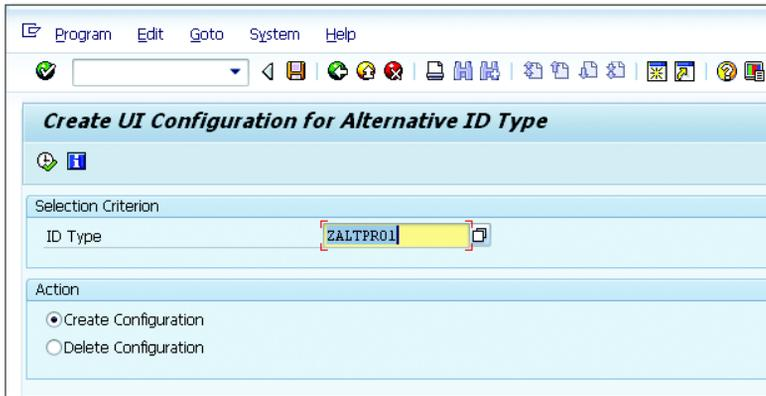

Figure 4.29 WebUI Configuration for the ID Type
10. Create a UI configuration for the alternative ID type by accessing Transaction CRMM_UIU_PROD_ALTID (Create UI Configuration for ID Type). Enter the ID TYPE created, and select CREATE CONFIGURATION under the ACTION section (see Figure 4.29). Execute the transaction to create the alternative ID set type on the product WebUI component.